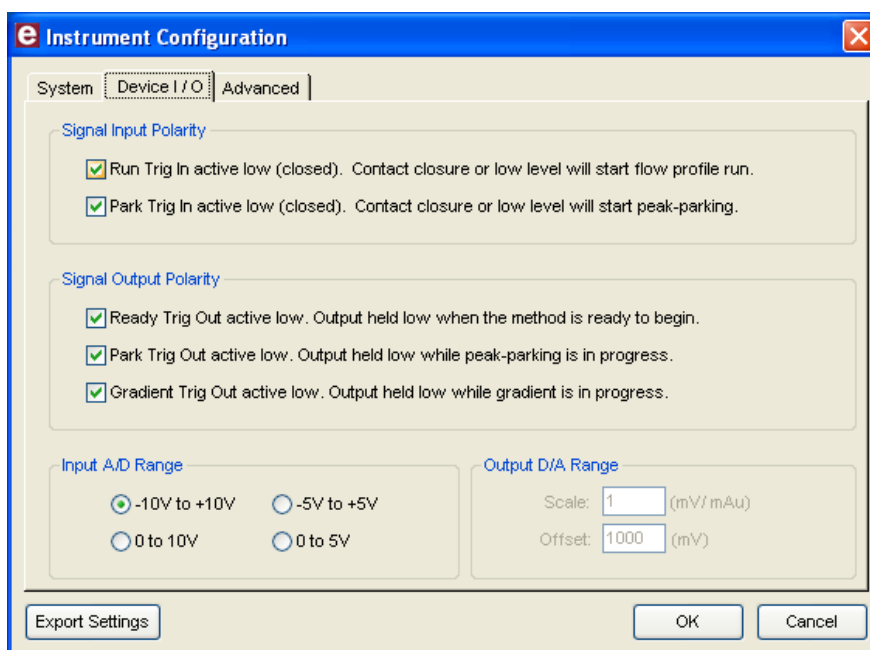

Figure 2-14 Instrument Configuration Dialog—Device I/O Tab
13. If an auxiliary A/D input (such as a UV detector) is connected to the system, select the voltage range the external device will provide under **Input A/D Range**. (Figure 2-14).